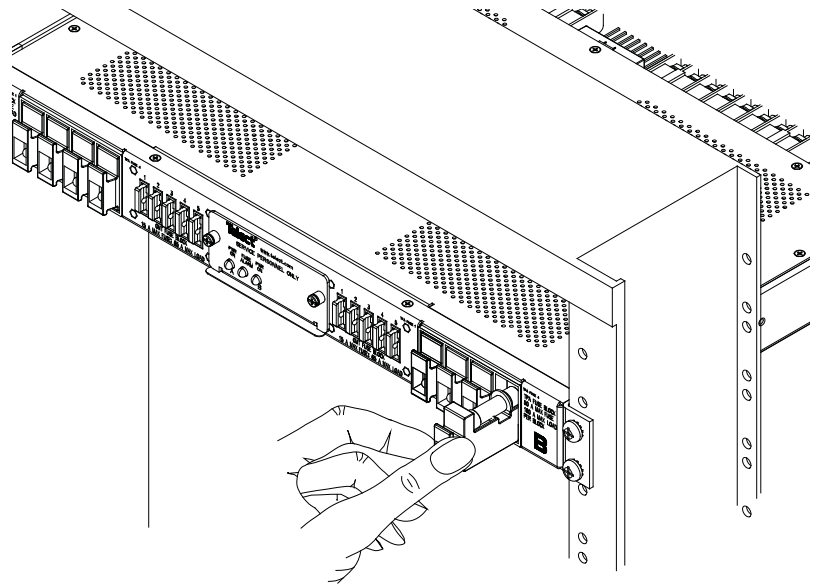

Figure 6 - Disengaging a TPA Fuse Holder
16. Make sure TPA and GMT fuse positions are either empty or contain dummy fuses (phony, inoperative all-plastic slugs). If necessary, pull out the TPA carrier about an inch from its holder to disengage the TPA fuse, as shown in Figure 6.